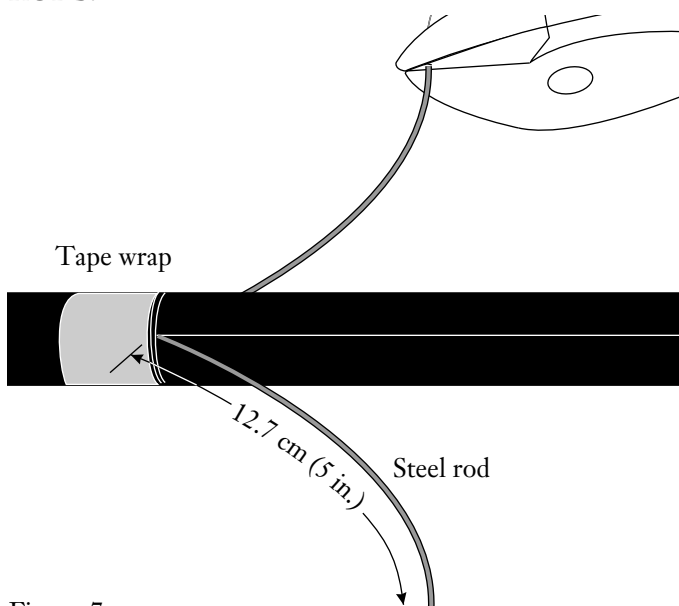

Figure 7
4.9 Use side cutters to cut the steel rods 12.7 cm (5 in.) from the tape wrap (Figure 7). Some hardware may require a greater length for proper strain relief. **ALWAYS WEAR SAFETY GLASSES WHEN CUTTING THE STEEL RODS.**